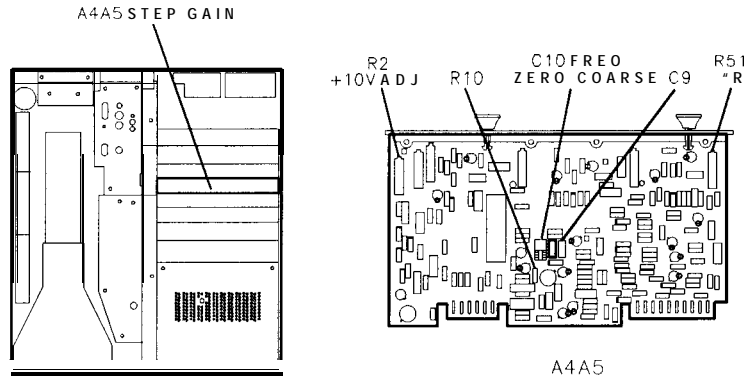

Figure 3-49.
31. Adjust A4A5R51 VR for MKR A level of + 0.10 dB. See Figure 3-49 for location of adjustment.
33. Press $\overline{\text{INSTR PRESET}}$ and $\overline{\text{RECALL}}$ (9).
35. Adjust A4A5C10 FREQ ZERO to peak signal trace on CRT. See Figure 3-49 for location of adjustment.
- 18.4 MHz signal and displayed harmonics should be below -10 dBm (-30 dBm on display due to 10:1 divider). If unable to adjust A4A6A1C31 18.4 MHz NULL for proper indication, increase value of A4A5R10. See Figure 3-49 for the location of A4A5R10. Refer to Table 3-3 for range of values.